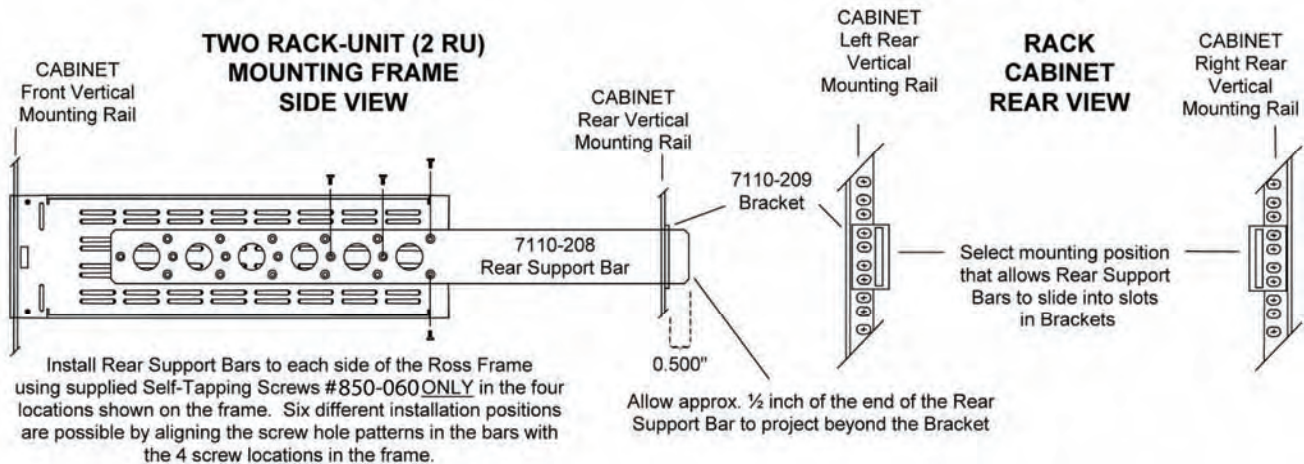

Figure 15. FSB-8310 Rear Support Bars and Brackets Diagram
1. The rear support bars can be attached to the openGear frame in six possible positions; refer to Figure 15. Choose the position that suits the cabinet depth that will give approximately a ½ inch (0.5") projection beyond the rear vertical mounting rails. Using four screws per bar, as shown in the illustration, fasten one bar to each side of the openGear frame.